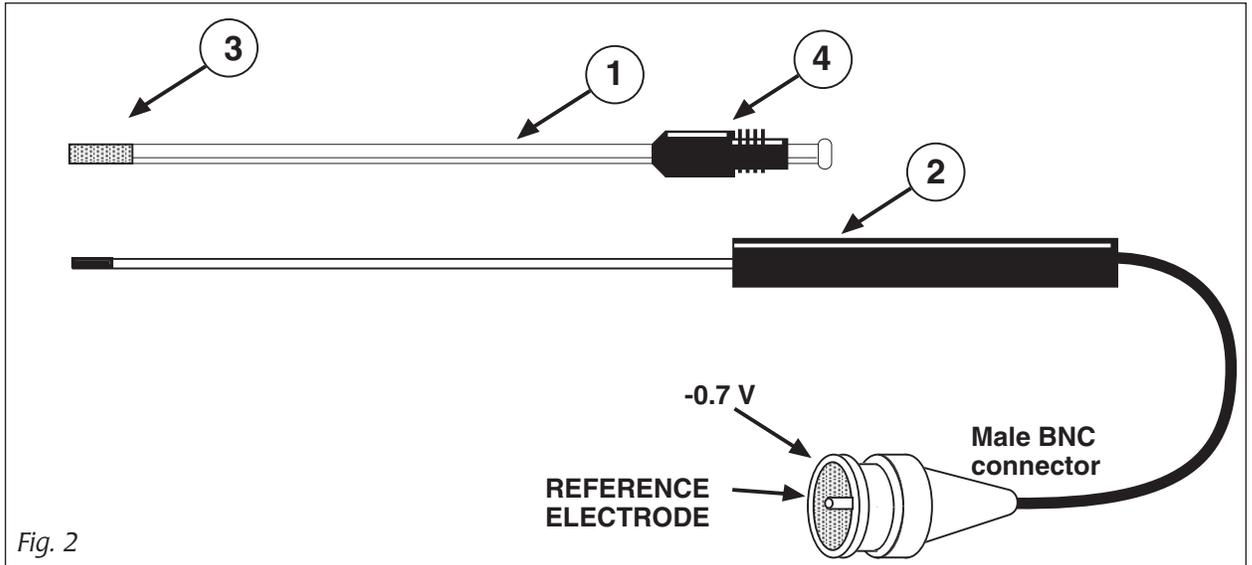

Fig. 2
The OXELP oxygen probe is specifically designed to be used with WPI's ISO₂ dissolved oxygen meter. Users who wish to employ OXELP with other instruments should see Fig. 2, page 7 for plug information.
Fig. 2 shows the principal components of an OXELP probe. A gas permeable membrane (3) is cemented to the tip of the outer stainless steel sleeve (1). The interior of the probe is a slender wand containing the platinum cathode and silver counter / reference electrode inside the sleeve. The wand is permanently mounted in the probe’s plastic handle (2). After electrolyte has been deposited inside the sleeve (see below), the wand is slowly inserted into the sleeve and secured by screwing the sleeve cap (4) gently into the probe handle. If the membrane on the stainless steel sleeve becomes damaged, the entire sleeve must be replaced. Two spare sleeves are provided with the ISO2 kit, and the user may purchase more. Should the user wish to sterilize the probe this should be done with alcohol or some other chemical for an assembled probe. The membrane sleeves can be autoclaved separately from the probe should the user desire to do this and then place the sterilized membrane sleeve onto the probe.